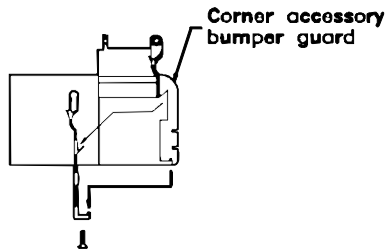

Fig 11
- Step 6:** Drill and countersink accessory mounting holes in bottom edge of aluminum retainer for #8 flat head wood screws provided, see *fig. 6*. Outside corners require 2 holes each side, see *figs. 11, 12* and *13*. Returns require 2 holes on one side, see *figs. 8, 9* and *10*